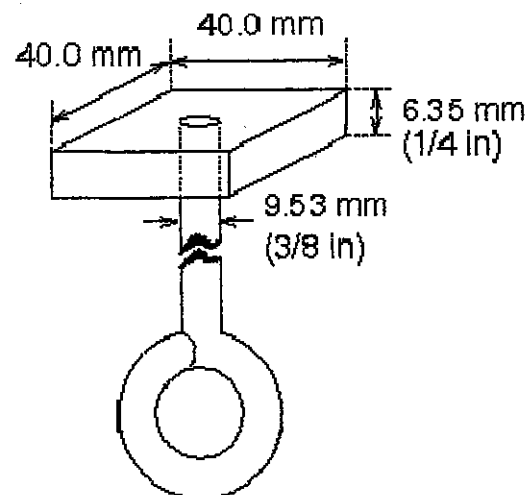

Figure 2. Loading Plate Detail
- a. The load will be applied by means of a 40.0 mm square plate that is 6.35 mm (1/4 inch) in thickness. A 9.53 mm (3/8 inch) diameter loading rod is attached from below to the center of the plate (see Figure 2). The plate will be horizontal, it will not pivot on the loading rod, and the sides of the plate will be parallel to the longitudinal axis of the bridge.